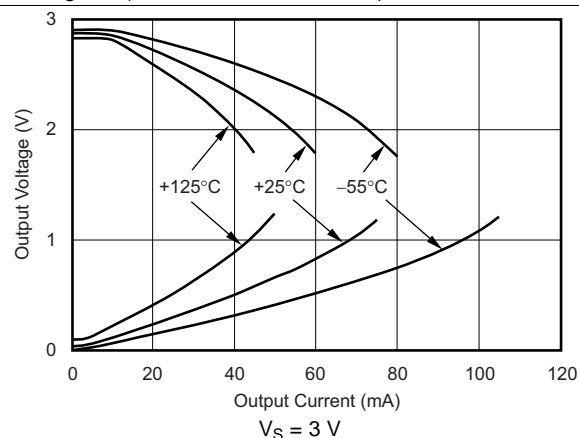
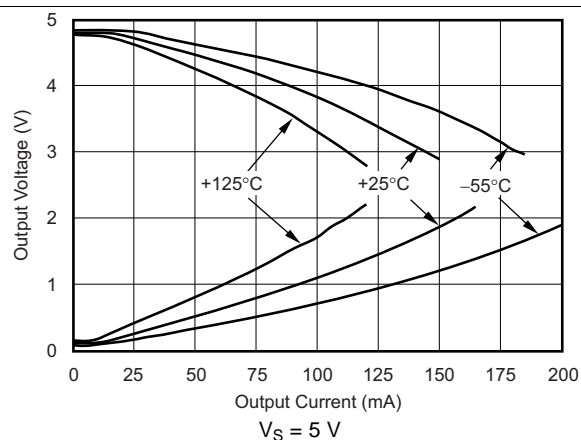
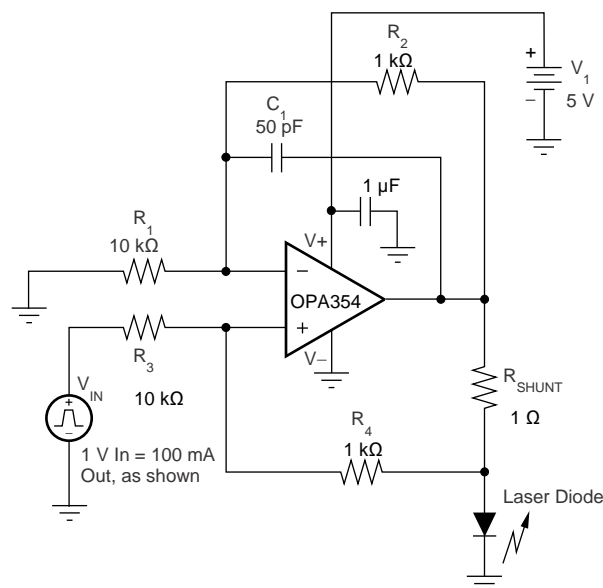
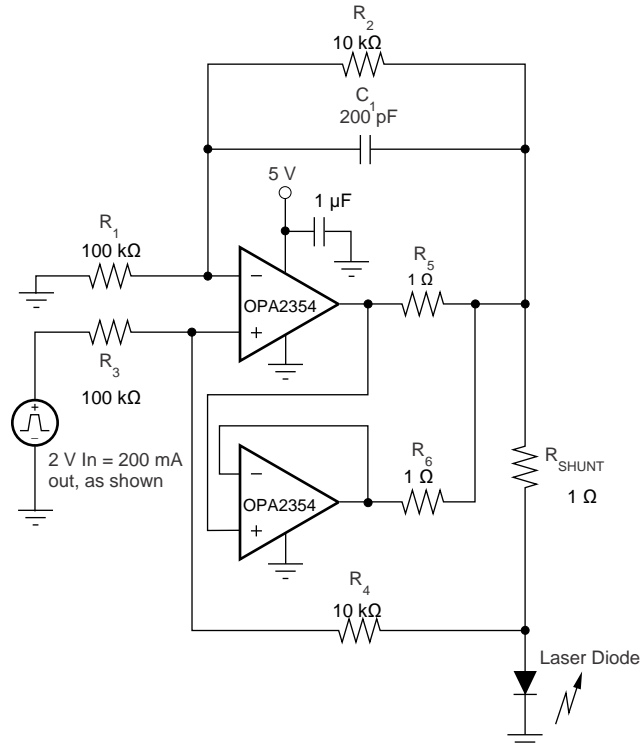

Figure 20. Output Voltage Swing vs Output Current
Figure 22. Output Voltage Swing vs Output Current
Figure 30. Laser Diode Driver
Figure 31. Parallel Operation
(1) See typical characteristic curves, *Output Voltage Swing vs Output Current* (Figure 20 and Figure 22).
(2) Specified by design.
A class AB output stage with common-source transistors achieves rail-to-rail output. For high-impedance loads ($> 200 \Omega$), the output voltage swing is typically 100 mV from the supply rails. With 10- Ω loads, a useful output swing is achieved while maintaining high open-loop gain. See the typical characteristic curves, *Output Voltage Swing vs Output Current* (Figure 20 and Figure 22).
The OPAx354 output stage supplies a continuous output current of ± 100 mA and yet provide approximately 2.7 V of output swing on a 5-V supply, as shown in Figure 30. For maximum reliability, TI does not recommend running a continuous DC current in excess of ± 100 mA. See the typical characteristic curves, *Output Voltage Swing vs Output Current* (Figure 20 and Figure 22). For supplying continuous output currents greater than ± 100 mA, the OPAx354 may be operated in parallel, as shown in Figure 31.